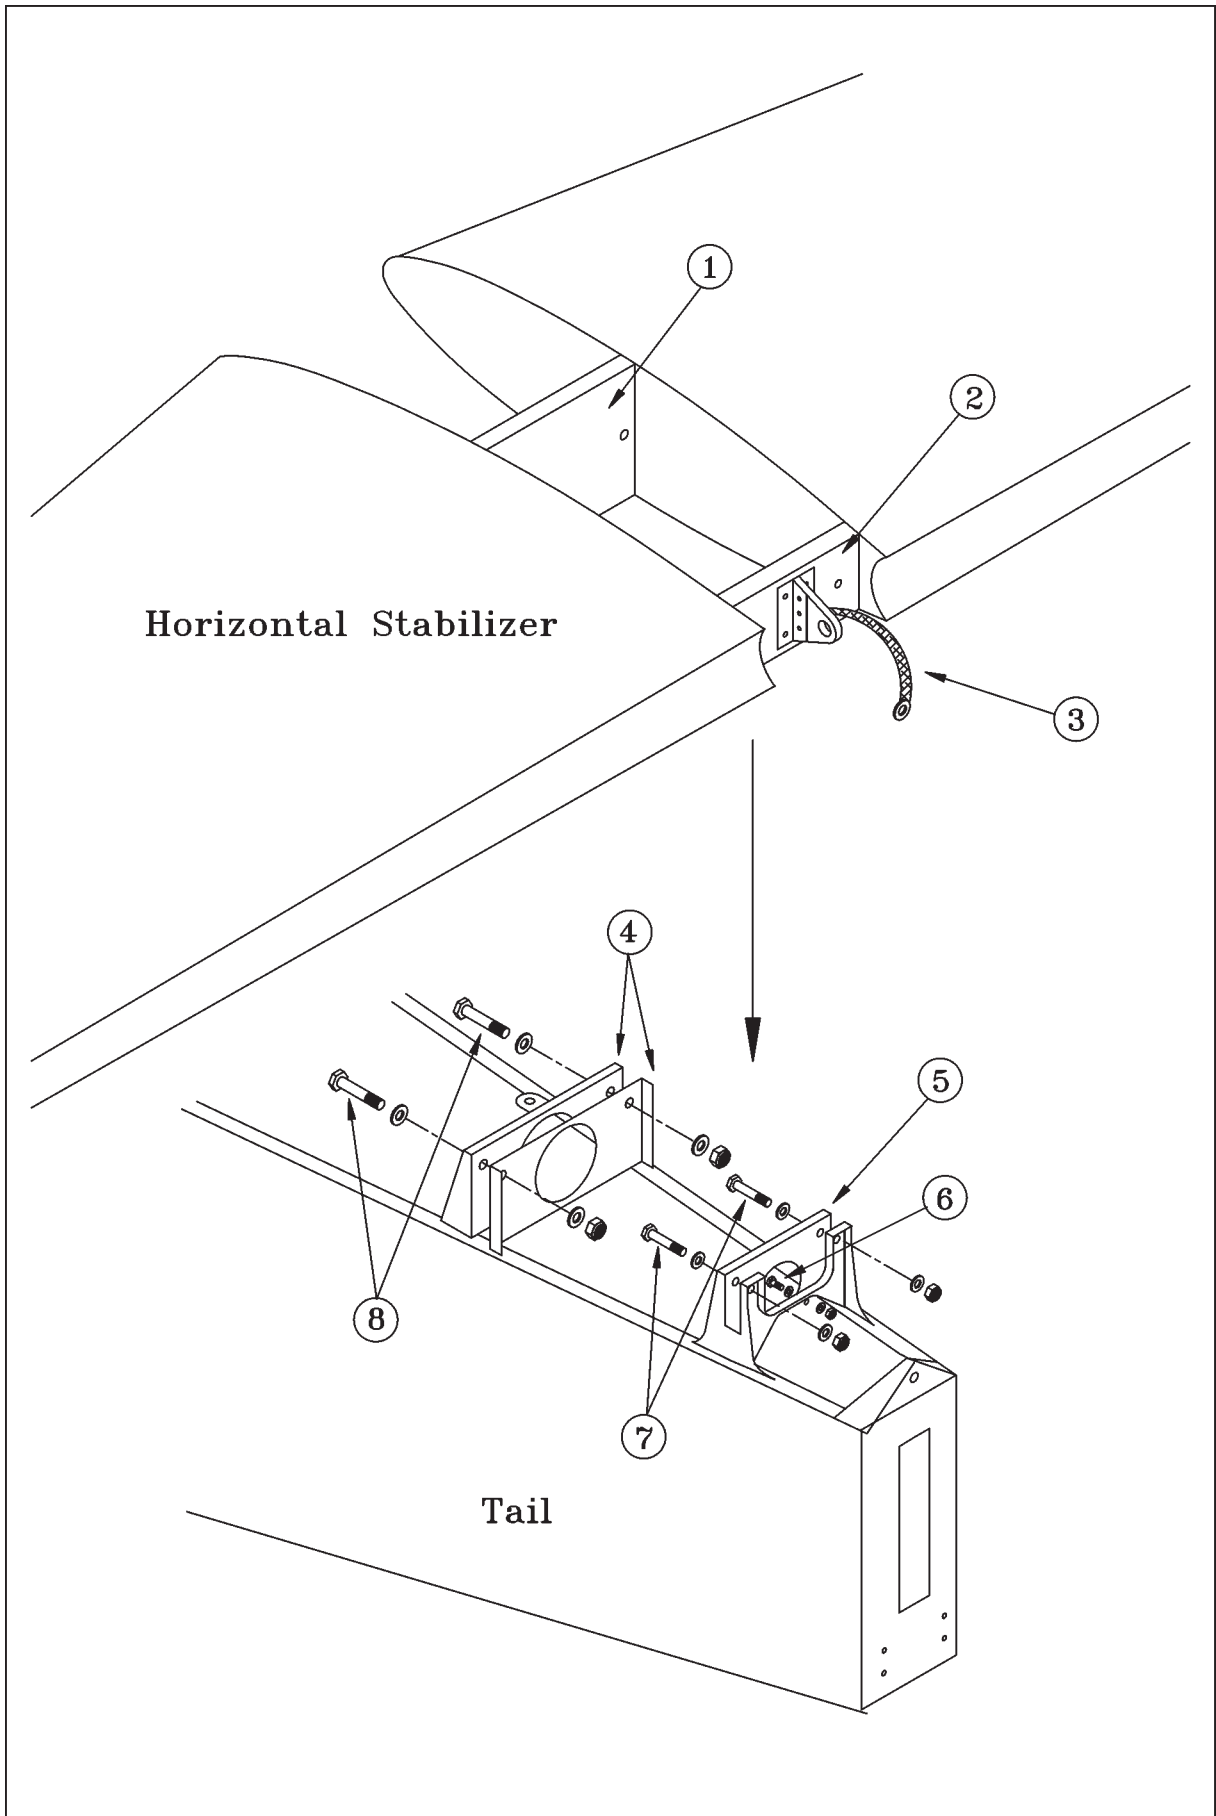

Figure 1
Figure 1	Horizontal Stabilizer Removal/Installation 5
- 2 Slide the horizontal stabilizer with its front spar (1, Figure 1) into the attach brackets (4) on fuselage. The rear spar (2) is situated behind the rear attachment bracket (5). (Trim tab is on the right side.)
- 3 Slide in LN 9037-10054 front spar attachment bolts (8) with an additional DIN 125 M10 washer under bolt head from the front to the rear. These bolts are also used for the vertical stabilizer attachment. So do not apply stop nuts before the vertical stabilizer is fitted to the fuselage.
- 4 Slide in the rear spar attachment bolts (7) from front to rear. Use LN 9037-10050 bolts in connection with LN 9348-10 stop nuts and DIN 125 M10 washers. Torque nuts for fastening.
- 5 Fasten the ground bonding lead (3) by means of the DIN 933 M5x12 bolt (6), the DIN 125 M5 washers and the LN 9348-05 stop nuts.